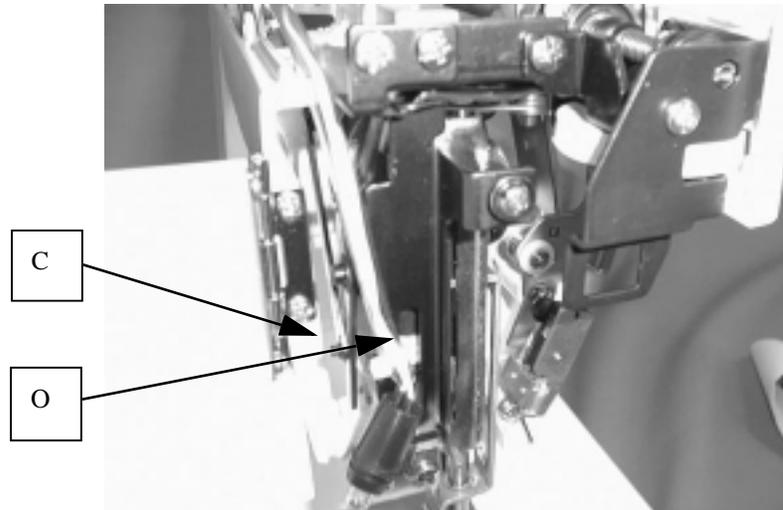
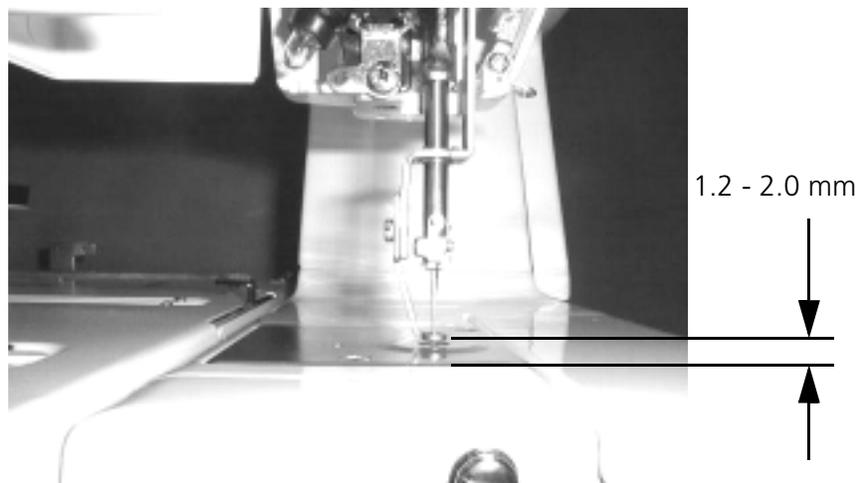

FIGURE 3-8
FIGURE 3-9
9. Set the snap ring(C) to the pin of the thread tension release lever as shown in Fig.3-8.
10. Adjust the height of ring(O). Set the presser foot to the lowest position as shown in Fig.3-8, and adjust the height of ring (O) so that the gap between the presser foot bottom and the upper face of the throat plate becomes 1.2-2.0mm. Fig.3-9.